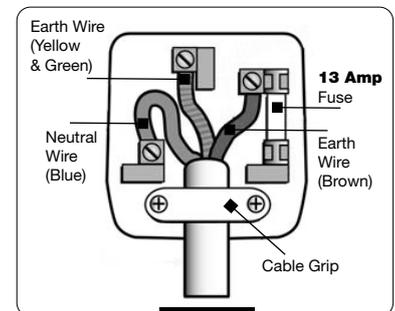

Fig.1
- Ensure that the voltage rating on the appliance suits the power supply to be used and that the plug is wired correctly and fitted with a **13A fuse** as shown in **Fig.1**.
- Replace a damaged plug with a BS1363/A 13 Amp 3-pin plug and wired as shown in **Fig.1**.